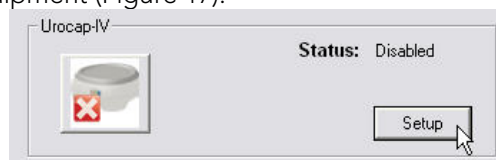

Figure 17: Launching Setup window
4. Click **Setup** to connect the equipment (Figure 17).